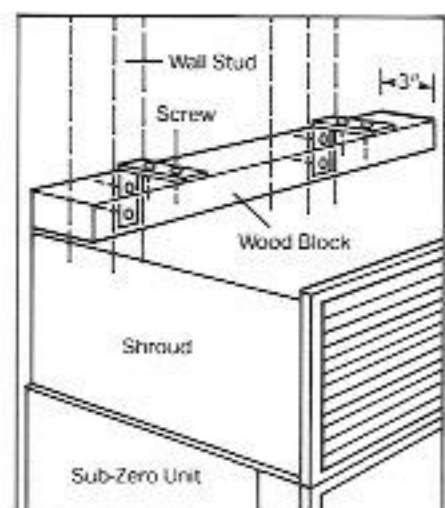

Figure 12
- Locate the proper height to clear the unit. The space along the top of the Sub-Zero between the unit and the bottom of the wood block **must not be greater** than $\frac{1}{4}$ inch. See Figure 12.
- Position the wood block over the unit and secure it using the screws and "L" brackets provided. Make sure screws extend a minimum of $\frac{1}{8}$ of an inch into each of the two wall studs. The wood block must extend a minimum of three inches over the unit. See Figure 12.